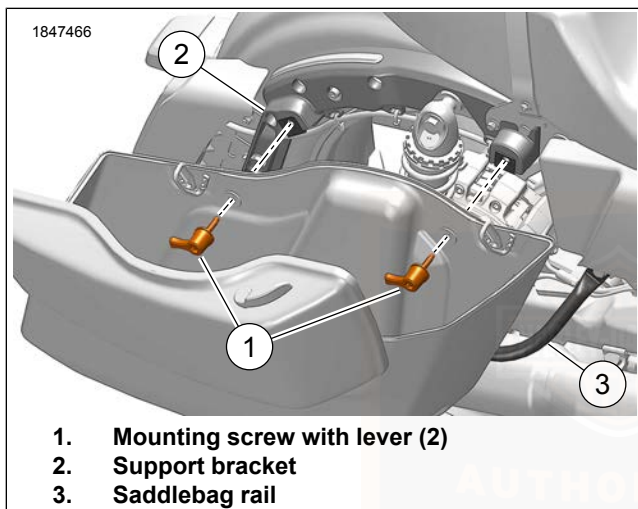

Figure 62. Saddlebag Removal/Installation
2. See Figure 62. Turn the mounting screw levers (1) counterclockwise to remove the mounting screws from the support bracket.
1. See Figure 62. Carefully place saddlebag in position on saddlebag rail (3). Align the mounting grommets with the support bracket (2).
2. See Figure 62. Install the mounting screws (1) through the grommets into support bracket (2). Turning the levers clockwise, tighten the mounting screws so the levers are pointed downward between the 3 o'clock and 9 o'clock positions as shown.